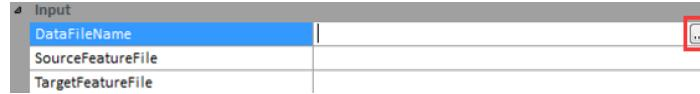

Figure 6-2. Browse button used to select data file.
- 3) Under the Input category, left click in the DataFileName, a browse button  will appear (Figure 6-2). Click the browse button, in the prompted dialog select the “rainfall7.csv” file placed in the Tutorial\Meteorological data folder.